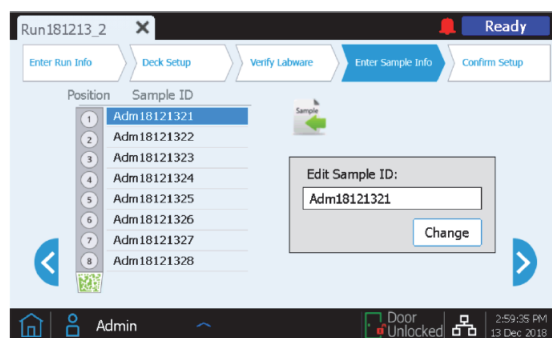

Figure 18. Edit Sample Info screen of the Magnis NGS Prep System; the Load samples button is highlighted with a circle.
- ◇ When setting up the run, on the *Enter Sample Info* screen, press the Load samples button (highlighted with a circle in Figure 18).